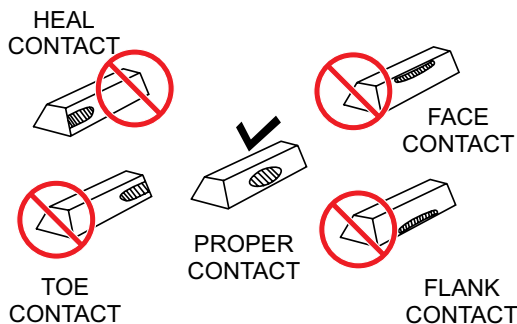

Figure 24. Gear Teeth Alignment
4. If gear teeth are not contacting properly (Figure 24), adjust pillow block to correct the problem.